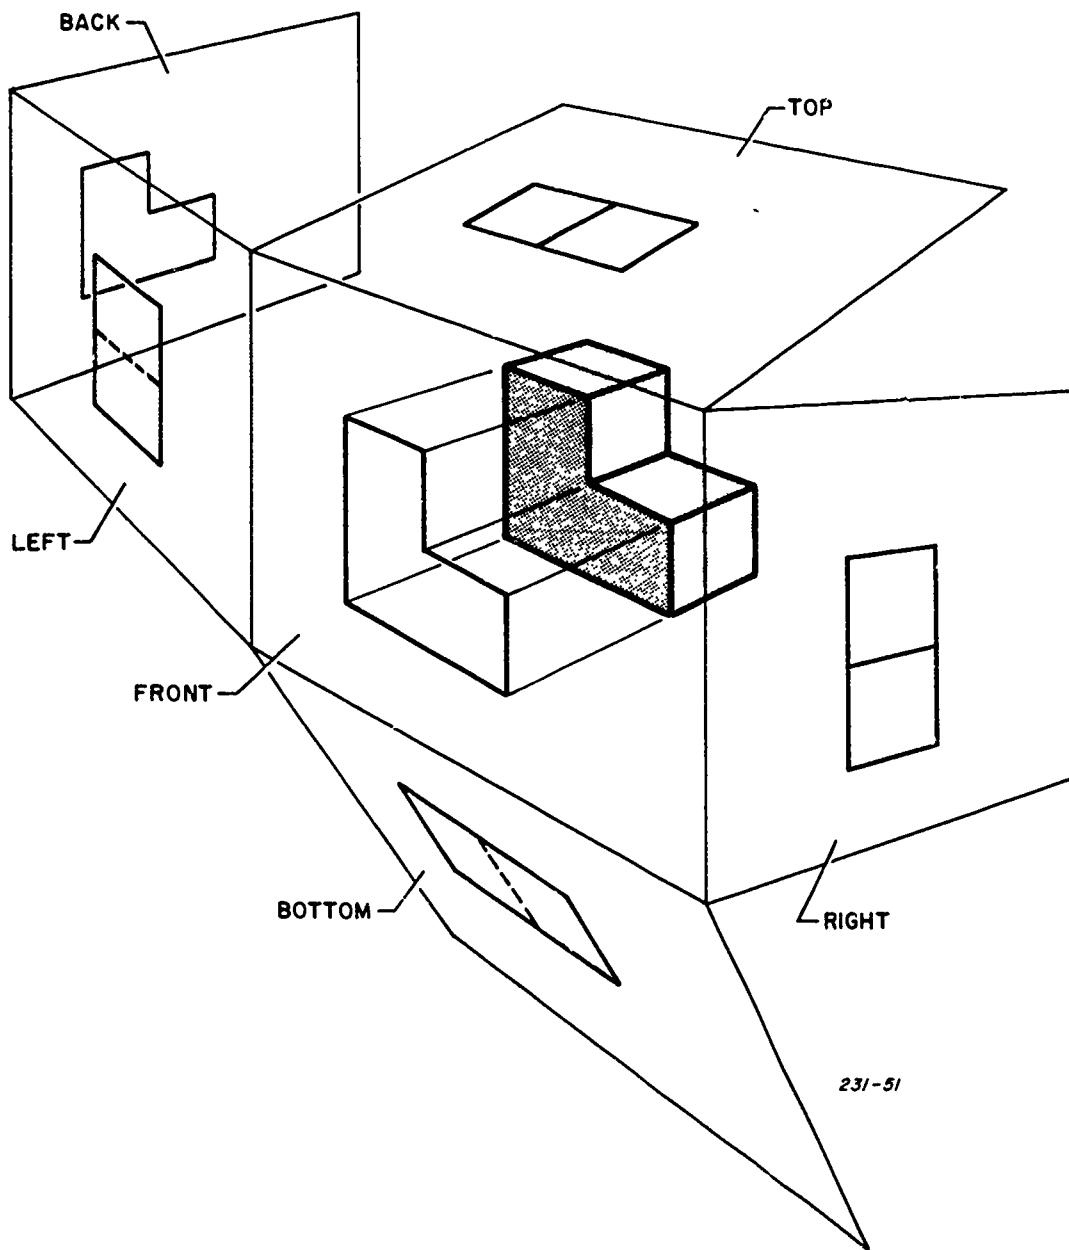

Figure 4-41. Opening the glass box.
**Opening the glass box.** To obtain all the views of the object laid out in a single plane and in the proper position, one must assume that the sides of the glass box are hinged. The partially opened box as shown in figure 4-41 has five of the six views rotating from the front view of the object, thus putting the right side view on the right of the front view, and all of the other views in their proper places as shown in figure 4-42.